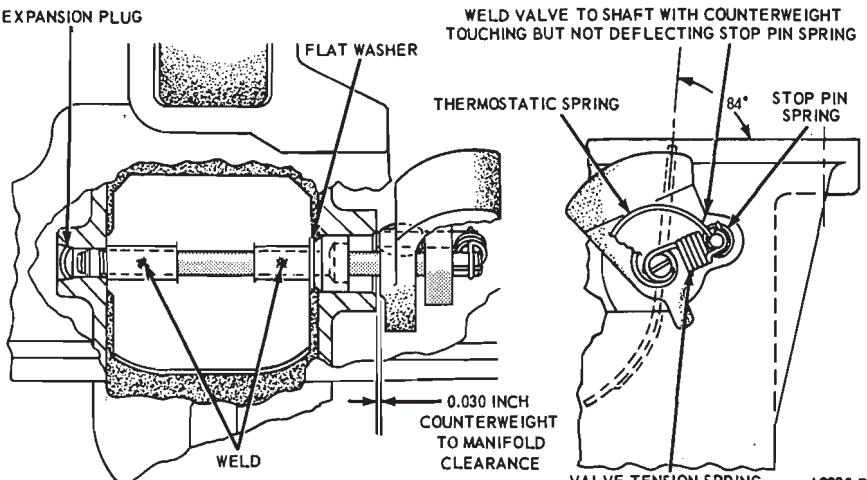

FIG. 31—Valve Plate Position and Counterweight Clearance
5. Position the exhaust control valve at an 84 degree angle with the top surface of the manifold (Fig. 31).